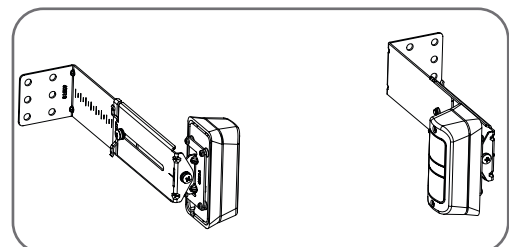

Fig. 6.13
- Make horizontal and/or vertical adjustment of the PE Beam Transmitter and/or Receiver until the red LED of the PE Beam Receiver turns OFF, indicating alignment (Fig. 6.13).